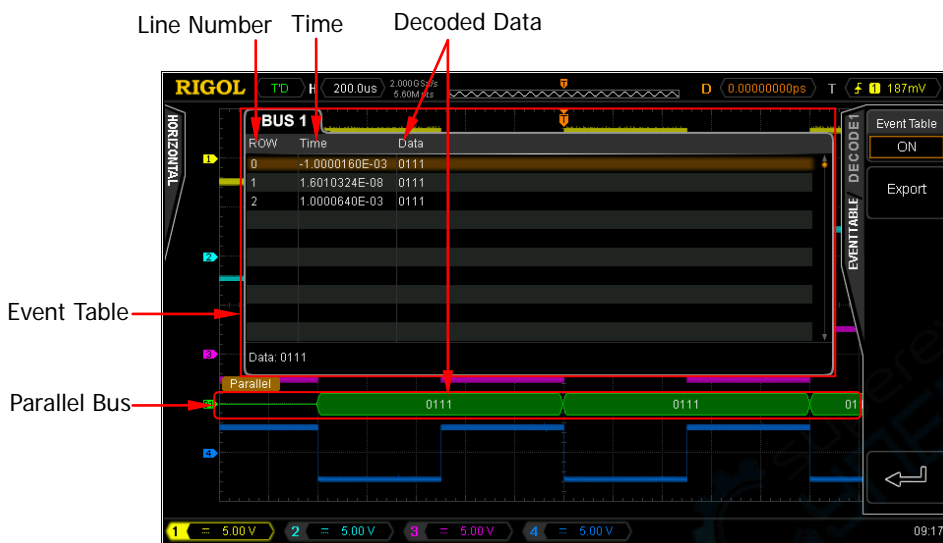

Figure 7-2 Parallel Decoding
Press **BusStatus** to turn the Decode1 display on or off. You can also press **Decode1** to switch the current on/off status of the Decode1 display. When the Decode1 display is turned on, the interface is as shown in Figure 7-2.
- 1) Press **Event Table** to turn on or off the event table. When the event table is turned on, the interface is as shown in Figure 7-2.